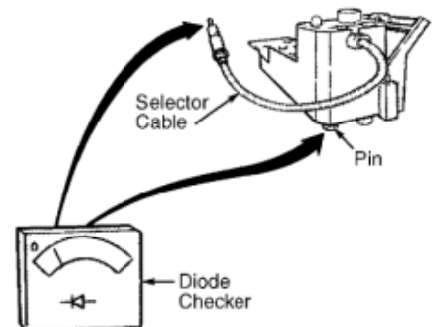

Fig. 8: Checking Diode Between Selector Cable & Pin
4) Using a diode tester, take a measurement with Red probe of diode tester on pin under LED, and Black probe on selector cable. See Fig. 8. If diode is inoperable, repair as necessary. If diode is okay, repeat SYSTEM COMPONENT CHECK. If no response code is generated during SYSTEM COMPONENT CHECK, go to CONTROL UNIT CHECK.